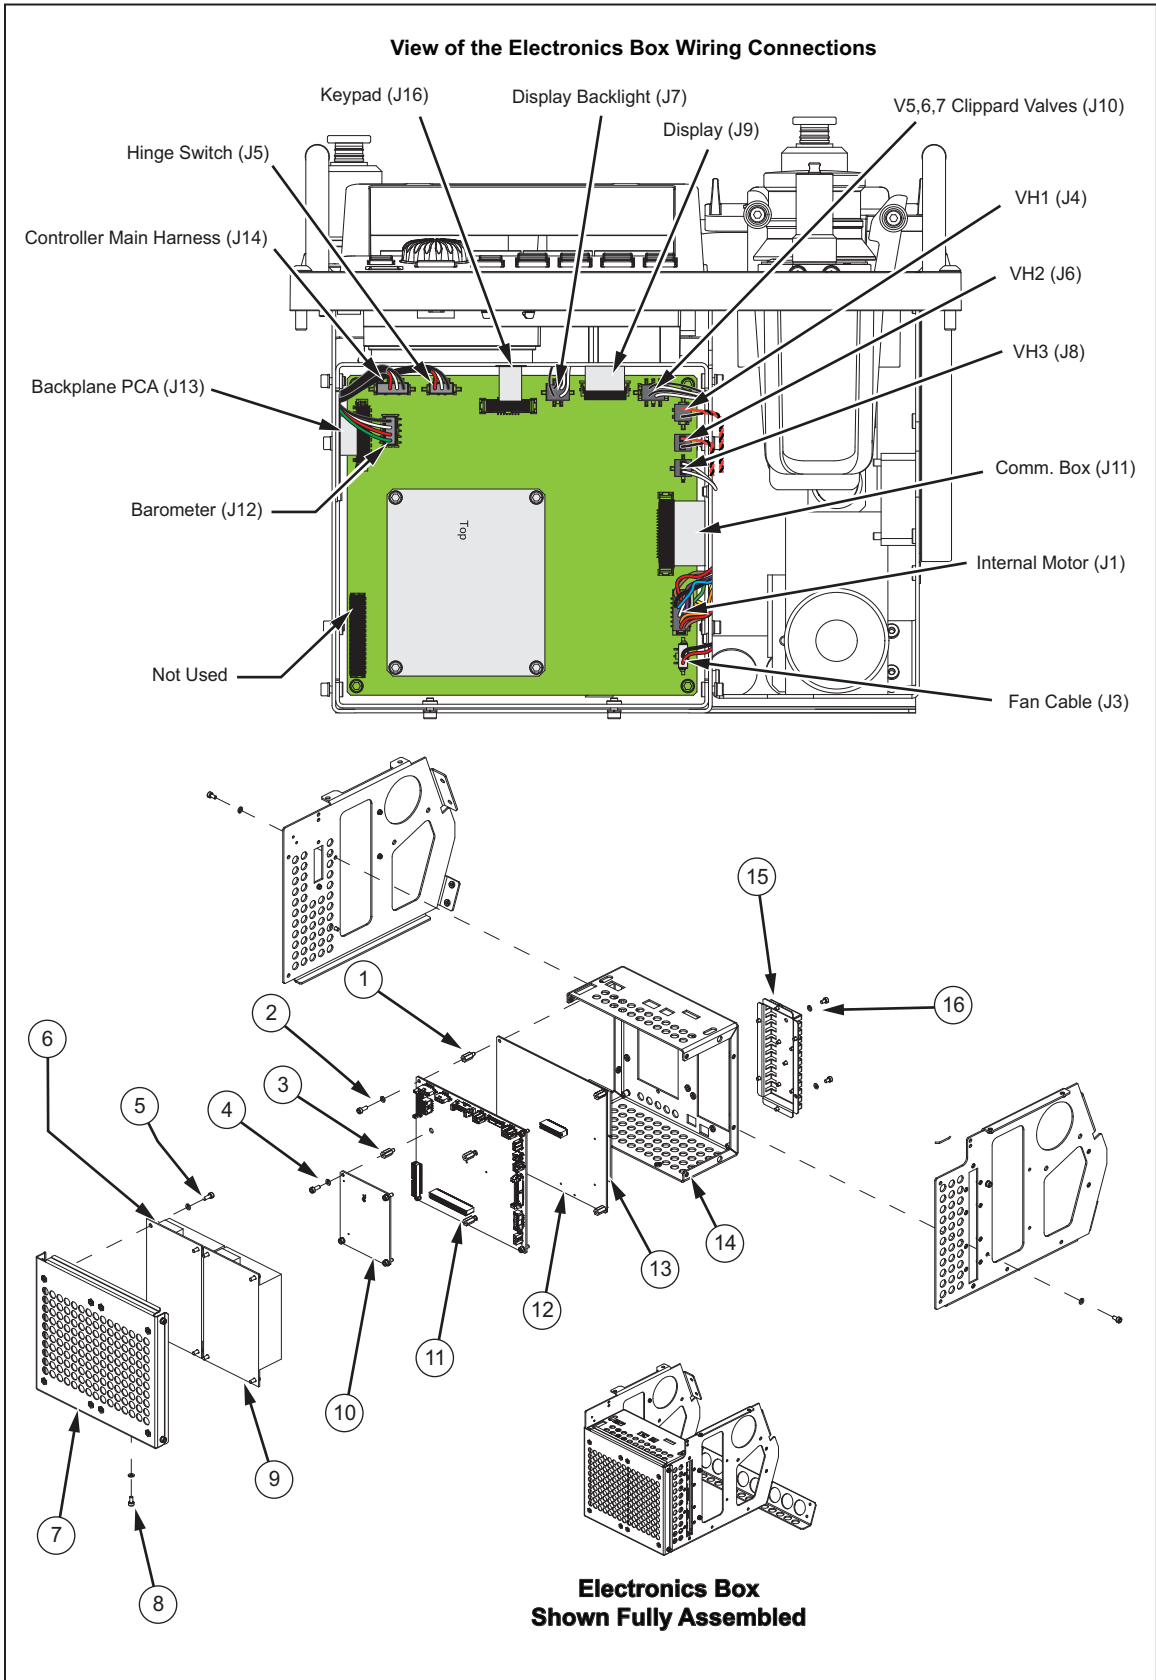

Figure 4-20. Electronic Box Assembly Exploded View
Use the following instructions and reference Figure 4-20 to gain access to the electronics box.
Use the following instructions and reference Figure 4-20 to replace the power supply pca (items 6 and 9).
2. After the cover is removed with the power supply pca assemblies attached, remove the eight screws and washers (5) that secure the two power supply pca assemblies (items 6 and 9) to the electronic box cover (7).
3. Put the two new power supply pca assemblies (items 6 and 9) in the electronic box cover (7).
4. Install the eight screws and washers (5) that secure the two power supply pca assemblies (items 6 and 9) to the electronic box cover (7).
Use the following instructions and reference Figure 4-20 to replace the processor pca (10).
2. Remove the four screws and washers (4) that secure the processor pca (10) to the main pca standoffs (3).
3. Install the new processor pca (10) on the main pca standoffs (3). Secure it with four screws and washers (4).
Use the following instructions and reference Figure 4-20 to replace the main pca (11) or the p-vlv pca (12).
2. Disconnect all wire connectors from the main pca (11) and disconnect the two precision control valve connectors to the bottom of the p-vlv pca (12). See Figure 4-20 for an illustration of all the connectors.
3. Remove the four screws and washers (2) that secure the main pca (12) to the p-vlv pca standoffs (1).
4. Remove the main pca (11) from the electronics box (14).
5. Remove the standoffs (1) that secure the p-vlv pca (12) to the electronics box (14).
6. Lift the p-vlv pca (12) out of the electronics box (14). The amplifier pca assemblies (13) will stay in the electronics box (14).
7. Carefully align the new p-vlv pca (12) on top of the amplifier pca assemblies (13).
8. Once aligned, slowly push down on the new p-vlv pca (12) to connect the two amplifier pca assemblies (13).
9. Install the standoffs (1) that secure the p-vlv pca (12) to the electronics box (14).
10. Install the four screws and washers (2) that secure the main pca (11) to the p-vlv pca standoffs (1).
11. Install the main PCA (11).
12. Connect all wire connectors from the main pca (11) and connect the two precision control valve connectors to the bottom of the p-vlv pca (12). See Figure 4-20 for an illustration of all the connectors.
Use the following instructions and reference Figure 4-20 to replace the amplifier pca assemblies (13).